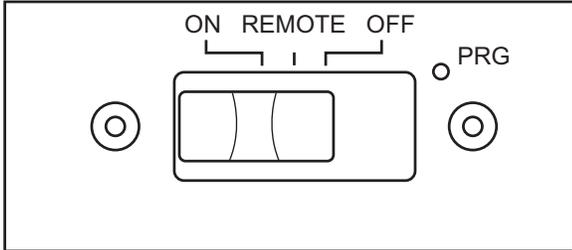

Figure 25 - Remote Selector Switch in ON Position
10. Wait one minute and switch selector switch to the ON position to light burners (see **Figure 25**). When using in the ON position (without remote) burners will light on high. There is no adjustment to the flames without using remote.